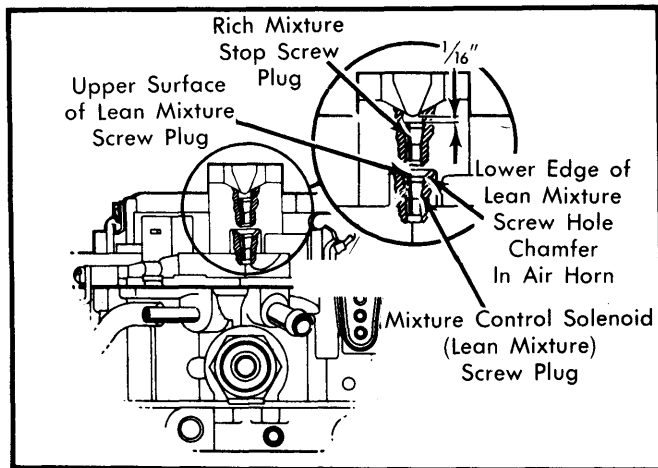

Fig. 9 Installing Lean and Rich Mixture Stop Screws in Air Horn
11) Once solenoid plunger travel is correctly set, install new plugs supplied in service kit. Install mixture solenoid screw plug, with hollow end down, into hole in raised boss of air horn casting. Use a small punch to drive plug into air horn until upper surface of plug is even with lower edge of hole chamfer. See Fig. 9.